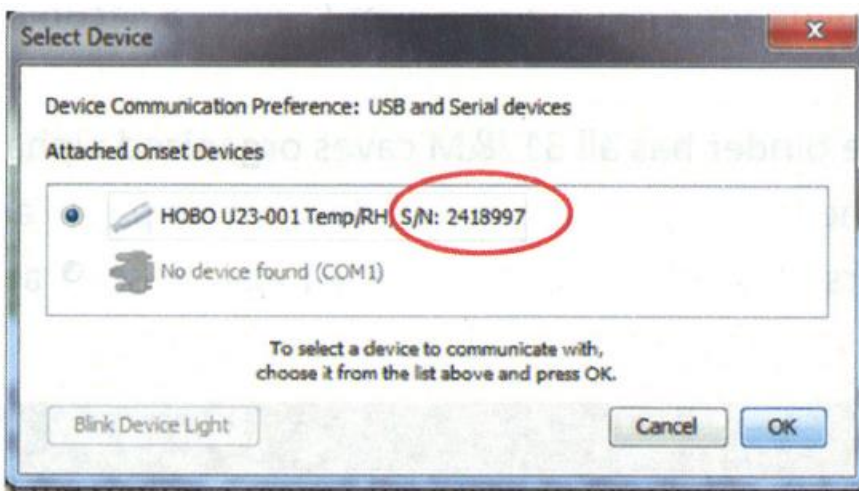

Figure 5-5. Select Device window showing the HOBO data logger serial number.
- b. Select “Launch” from the upper left hand icon bar and confirm once again that you have the correct device by checking the serial number (Figure 5-5).